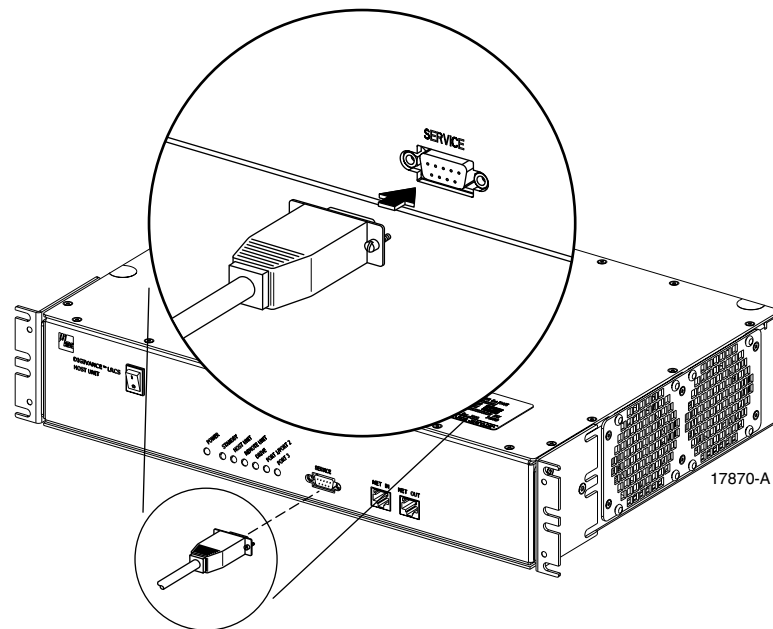

Figure 3-11. Service Interface Connection
1. Connect one end of the service interface cable (accessory) to the SERVICE port as shown in Figure 3-11.